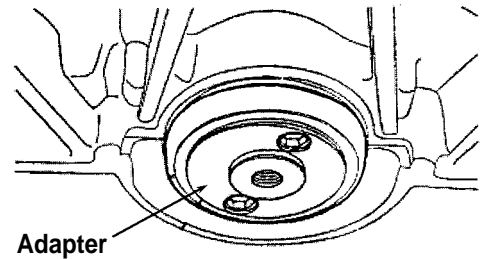

Figure 1
2. Attach the adapter (from No. 7834) to the crankshaft using the supplied bolts. See Figure 1.